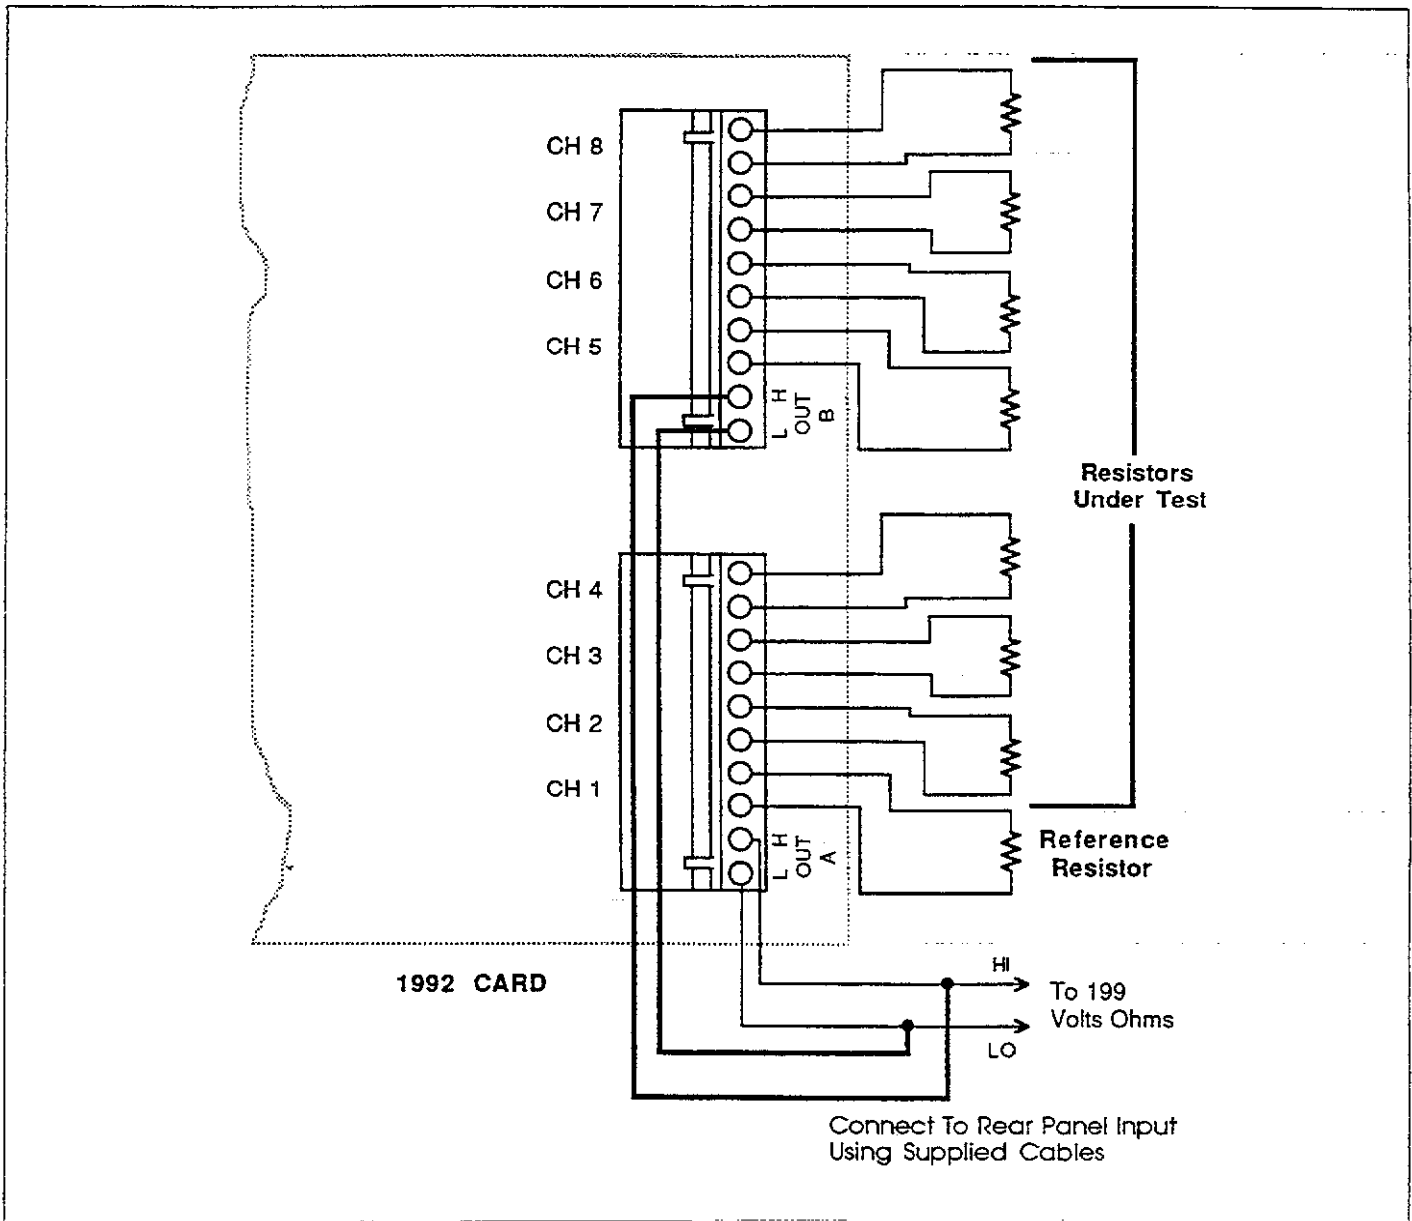

Figure 3-10. 2-Pole Resistor Test Connections
Typical connections for 2-pole and 4-pole modes are shown in Figures 3-10 and 3-11. The 4-pole mode is recommended for making measurements on the 300 $\Omega$ , 3k $\Omega$ , and 30k $\Omega$  ranges in order to attain rated accuracy. For the 2-pole mode, the reference resistor should be connected to channel 1 only; in the case of the 4-pole mode, the reference resistor is connected to both channel 1 and 5. The resistors being compared are connected to the remaining channels as indicated.
The scanner output connections also differ. For the 2-pole mode (Figure 3-10), OUT A and OUT B are strapped together (H to H, L to L) and then connected to the VOLTS OHMS terminals of the Model 199 (the rear panel terminals are most convenient for scanner use; just be sure the rear panel terminals are selected with the front panel switch). In the case of the 4-pole connections, OUT A is connected to the VOLTS OHMS terminals, while OUT B is connected to the OHMS SENSE terminals.
1. Connect the resistors to the scanner, as shown in Figure 3-10 or 3-11. For resistances below 30k $\Omega$ , the 4-pole mode is recommended for rated accuracy.